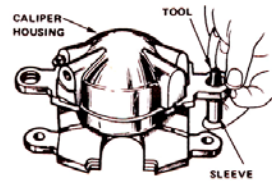

Fig. 6
2. Apply silicone lubricant to the inside and outside of the sleeves and to the outside of the sleeve installer tool, if used. Push the sleeves in the inboard ears of the caliper as shown in Fig. 6 until the end of the sleeves toward the pads and plates is flush with the machined surface of the caliper.